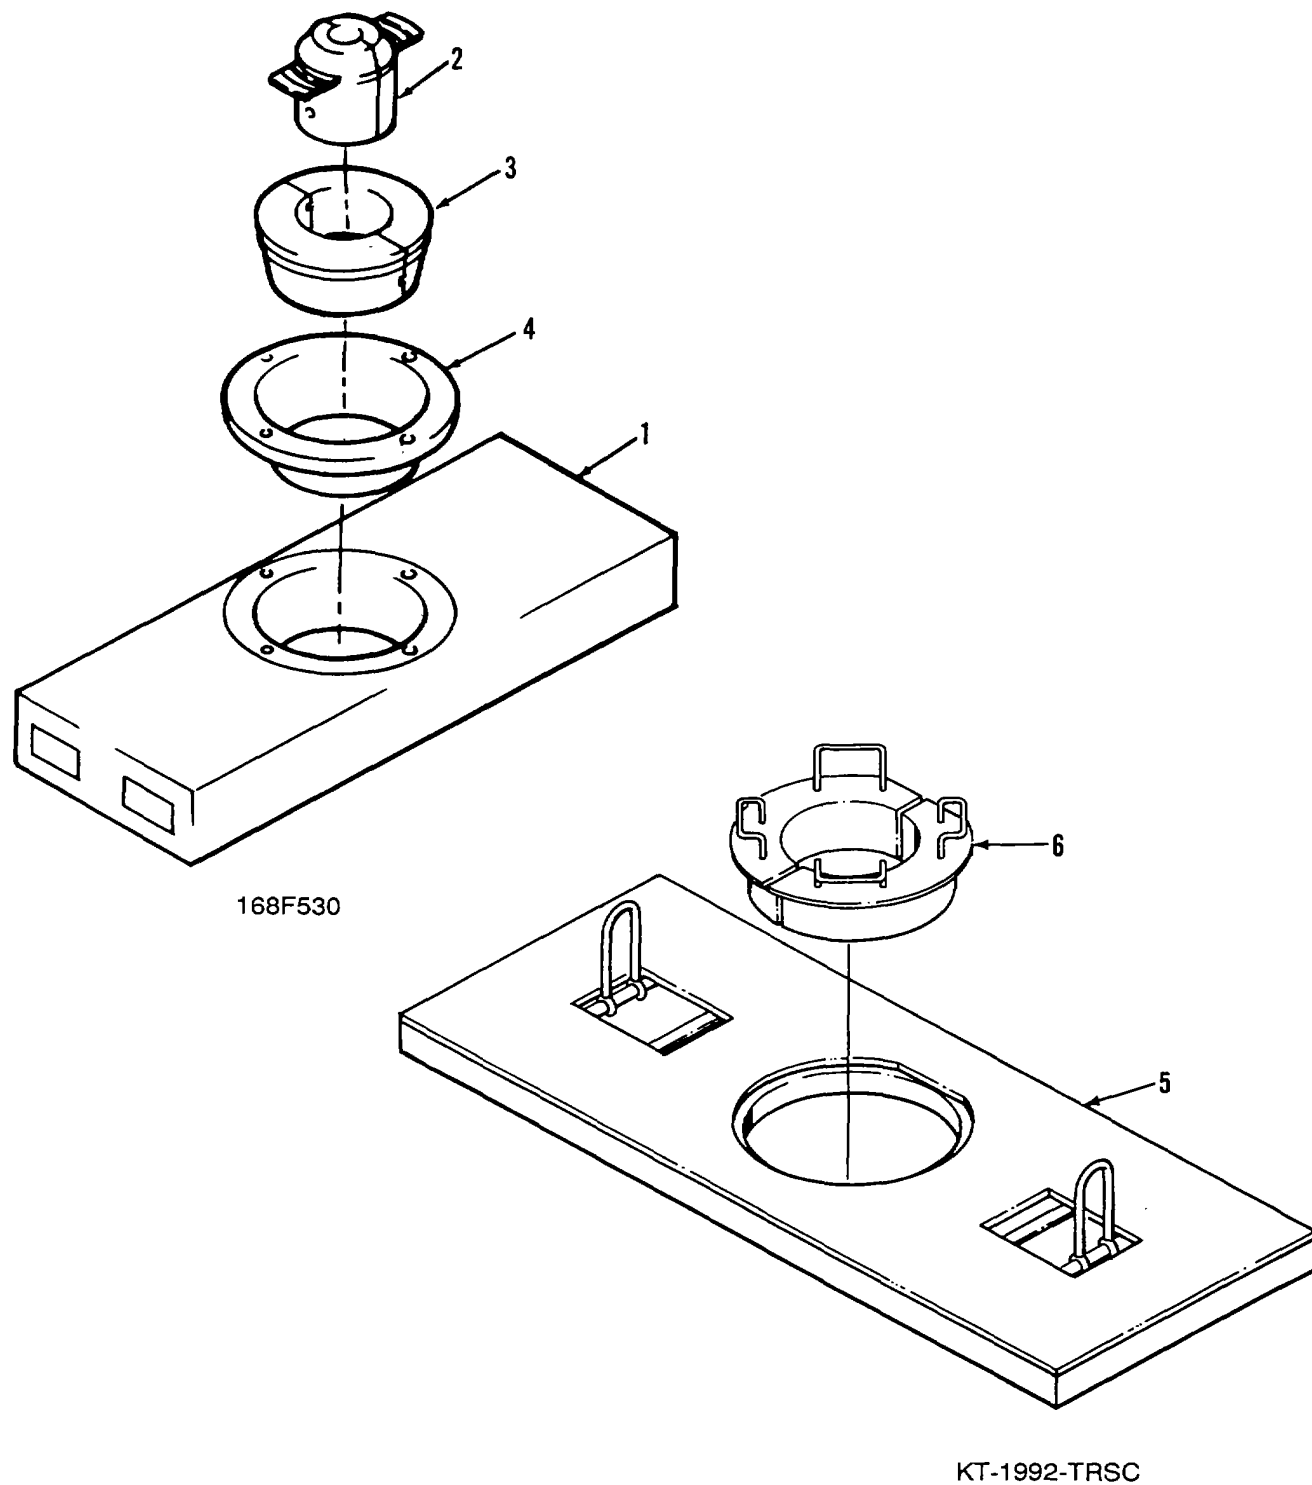

Figure 2-56. Spider, Base and Slips; Working Base and Split Bushings
- (1) Place spider base (1, Figure 2-56), or working base (5), on ground beneath rear of rig, centering the opening in base with the rig rotary table.
- (2) Use spider base, or working base, only when you set casing or the drop pipe as you install the pump.
- (3) To set casing or drop pipe, use the appropriate slips (2) or split bushings (6) in the base to hold the sections while adding additional joints. The slips (168F530) and split bushings (KT-1992-TRSC) used for various sizes of casing and drop pipe are as follows: